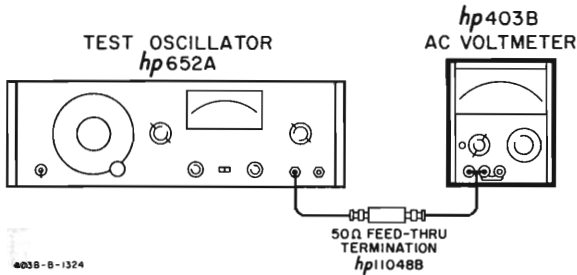

Figure 5-5. Frequency Response Setup
- a. Connect the 403B as shown in Figure 5-5.